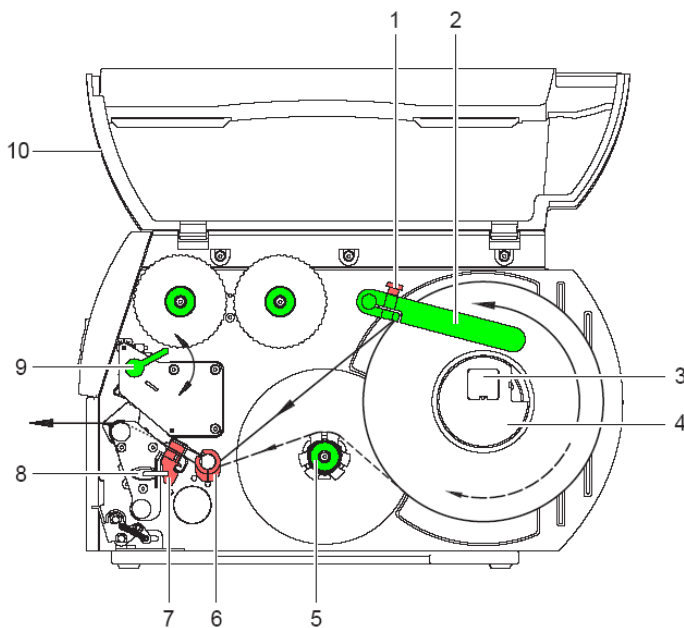

Fig. 3-2 - Inserting labels
1. Loosen the knurled screw (1), swivel the guide (2) upwards and push it as far as possible to the outside.
2. Place the roll of labels on the roll holder (3) and unwind a longer strip of labels from the main roll. Push the roll as far as it will go.
3. Swivel the guide (2) down to the roll holder (3). Push the guide against the main roll so that it is braked slightly when unwinding. Tighten the knurled screw (3).
4. Swivel the lever (9) counter-clockwise as far as it will go, thus lifting the print head component.
5. Push the guide ring (6) outwards as far as it will go.
6. Guide the strip of labels through the printer as shown in Fig. 3-2. The run of paper for labels on the outside is shown as a continuous line, the run of paper for labels on the inside as a dotted line.